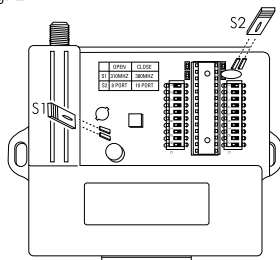

Fig. 2
Step 2. You can now see the jumper and dip switches. See Fig. 2.
Step 4. Determine the operating frequency you will use on your installation. The Transmitter Solutions Hive receiver can operate at either 300 MHz or 310 MHz. At 300 MHz the hive receiver is compatible with all MultiCode transmitters with 10 dip switches operating at 300 MHz. At 310 MHz the Hive receiver is compatible with all Linear transmitters with 8 dip switches and Stanley transmitters with 10 dip switches operating at 310 MHz. See Fig. 2.
Step 5. Set the dip switches to the desired settings to match your transmitters SW1 controls Relay 1 and SW2 controls Relay 2. Refer to Fig. 2.